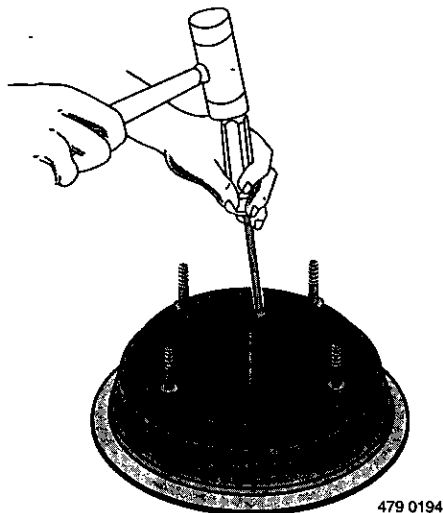

Figure 6
- Place back half of pump on flat surface and tap out ceramic seat. See Figure 6.